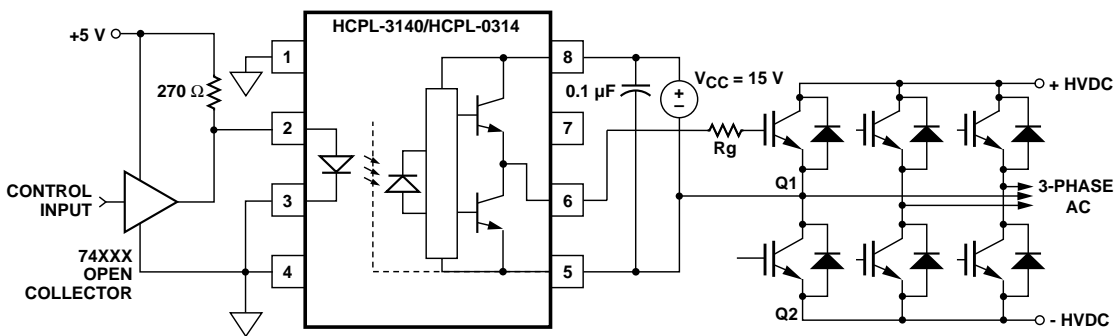
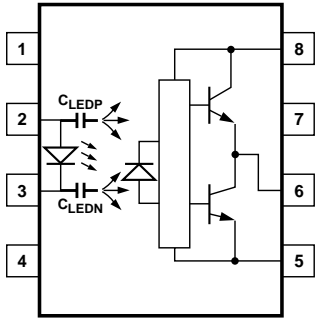
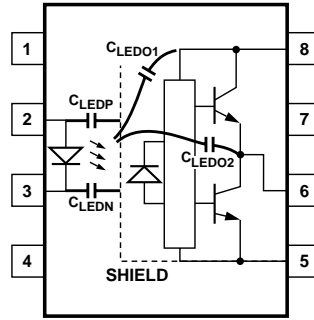

Figure 19. Recommended LED Drive and Application Circuit for HCPL-3140/HCPL-0314.
Figure 21. Optocoupler Input to Output Capacitance Model for Unshielded Optocouplers.
Figure 22. Optocoupler Input to Output Capacitance Model for Shielded Optocouplers.
HCPL-3140/HCPL-0314 on a small PC board directly above the IGBT) can eliminate the need for negative IGBT gate drive in many applications as shown in Figure 19. Care should be taken with such a PC board design to avoid routing the IGBT collector or emitter traces close to the HCPL-3140/HCPL-0314 input as this can result in unwanted
Step 1: Calculate R_g minimum from the I_{OL} peak specification. The IGBT and R_g in Figure 19 can be analyzed as a simple RC circuit with a voltage supplied by the HCPL-3140/HCPL-0314.
where K_{IC} • Q_g • f is the increase in I_{CC} due to switching and K_{IC} is a constant of 0.001 mA/(nC•kHz). For the circuit in Figure 19 with I_F (worst case) = 10 mA, R_g = 32 Ω, Max Duty Cycle = 80%, Q_g = 100 nC, f = 20 kHz and T_{AMAX} = 85°C:
Without a detector shield, the dominant cause of optocoupler CMR failure is capacitive coupling from the input side of the optocoupler, through the package, to the detector IC as shown in Figure 21. The HCPL-3140/HCPL-0314 improves CMR performance by using a detector IC with an optically transparent Faraday shield, which diverts the capacitively coupled current away from the sensitive IC circuitry. However, this shield does not eliminate the capacitive coupling between the LED and opto-coupler pins 5-8 as shown in Figure 22. This capacitive coupling causes perturbations in the LED current during common mode transients and becomes the major source of CMR failures for a shielded optocoupler. The main design objective of a high CMR LED drive circuit becomes keeping the LED in the proper state (on or off) during common mode transients. For example, the recommended application circuit (Figure 19), can achieve 10 kV/μs CMR while minimizing component complexity.
supplied by the LED, and it is not recommended for applications requiring ultra high CMR₁ performance. The alternative drive circuit which like the recommended application circuit (Figure 19), does achieve ultra high CMR performance by shunting the LED in the off state.